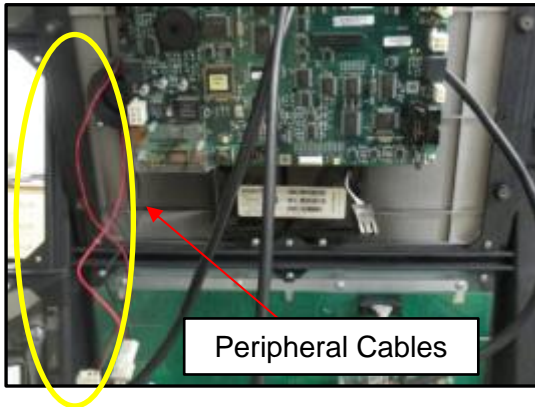

Fig 7a – Example of possible existing peripheral cables
18. Unplug any peripherals (such as backlights) that may be connected to the QVGA Panel. (Fig 7a,b)